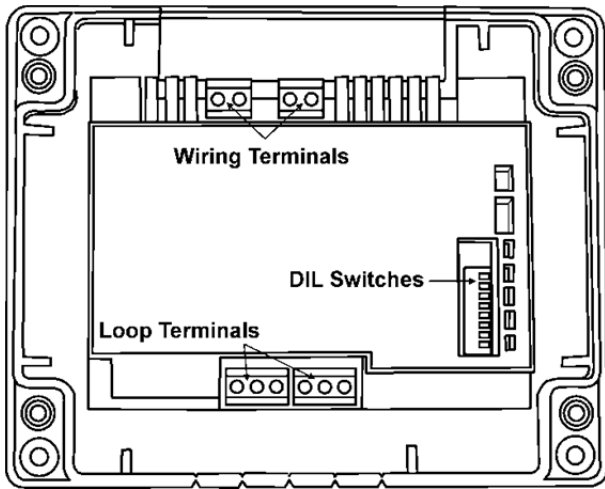
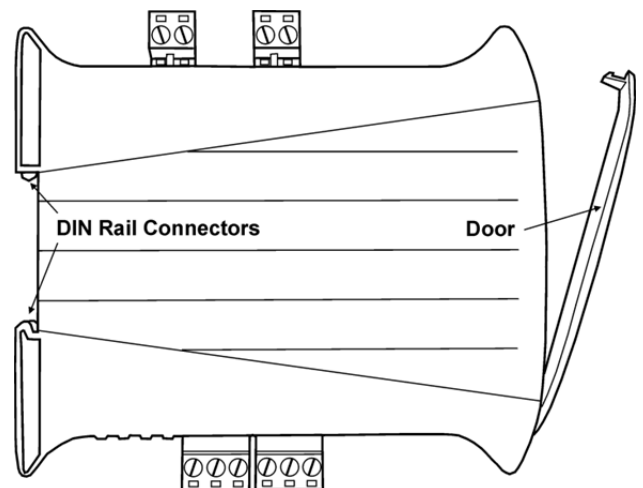

Fig 1
Fig 3
Standard "Smart-Fix" Modules are supplied as two individual components (see Fig 1 & 2). DIN versions are supplied as one unit (see Fig 3).
- The analogue address of the Module is set using the first 7 switches of the 8-bit DIL switch, which in the case of the Standard CHQ is located through the cut-out section on the top of the PCB cover. On the DIN version, this switch is located on the edge of the PCB behind the clear door (see Fig 3).